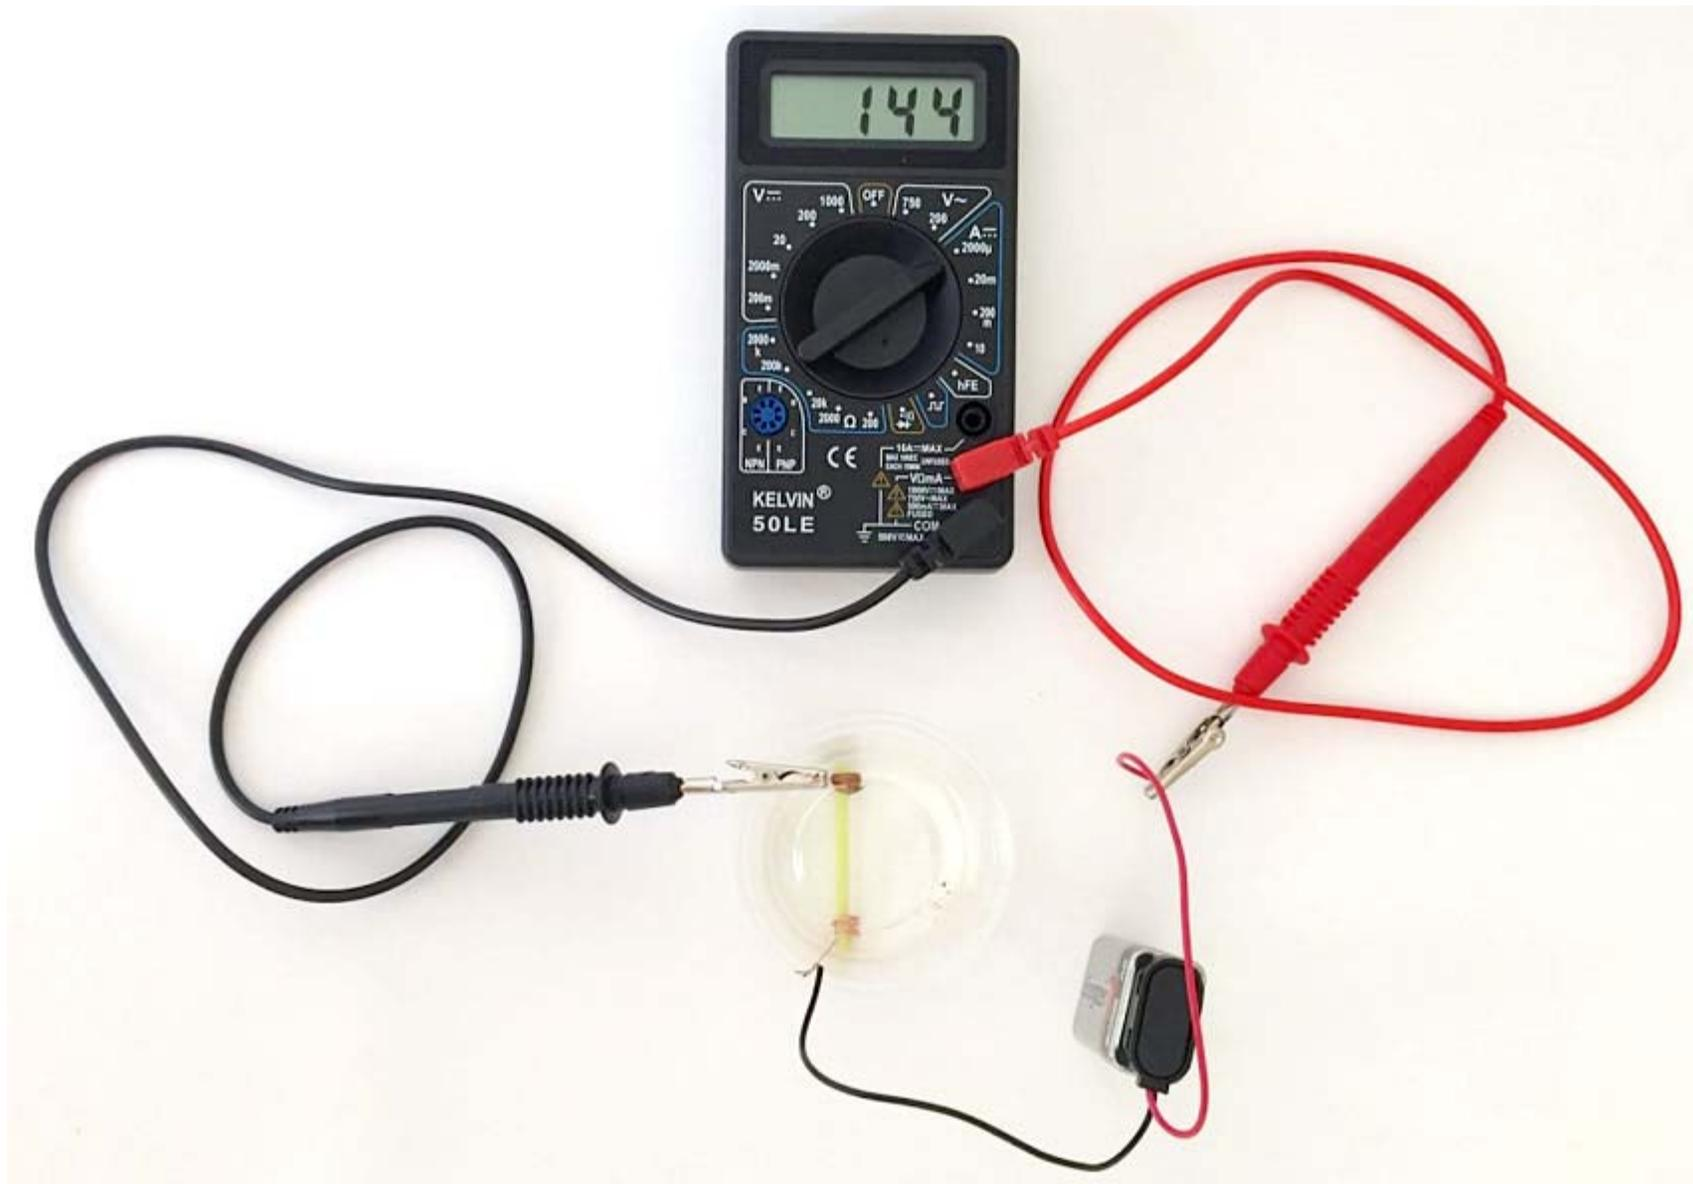

Figure 7. This photo shows an example of the completed conductivity measuring circuit.
2. Next, you will make the conductivity measuring circuit using the multimeter that comes with the Microbial Fuel Cell kit. If you need help using a multimeter, consult the Science Buddies reference [How to Use a Multimeter](http://www.sciencebuddies.org/science-fair-projects/references/how-to-use-a-multimeter) (<http://www.sciencebuddies.org/science-fair-projects/references/how-to-use-a-multimeter>), as well as the instructions that came with your multimeter. Figure 7 shows a detailed picture of the entire circuit. If you want, you can assemble your circuit just by looking at this figure.
- f. Double-check your connections to make sure they match those shown in Figures 7. The order of the connections is important!
- g. **Important:** Never let exposed metal from the red or black multimeter probes/alligator clips, or the conductance sensor wires, touch each other directly. This will create a **short circuit**. Since the circuit contains a 9 V battery, this could damage your multimeter by blowing out the fuse. Always keep the red and black wires a safe distance away from each other, as shown in Figure 7. Keeping your multimeter's dial in the "OFF" position when not in use will also help prevent accidental damage to your multimeter.